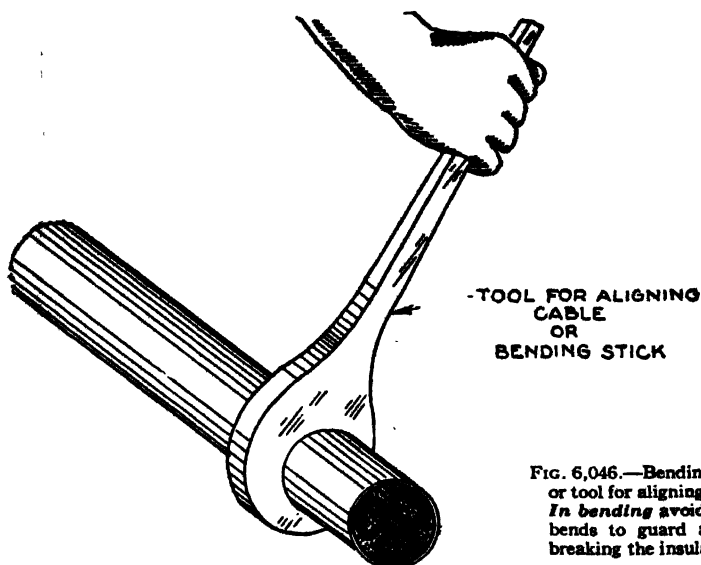

FIG. 6,046.—Bending stick or tool for aligning cable. *In bending avoid sharp bends to guard against breaking the insulation.*
**Belling.**—The term “bell” means to flare out. The end of the lead sheath is now belled, as shown in fig. 6,044, using a blunt
FIGS. 6,044 and 6,045.—Belling operation and belling tool. The end of the lead sheath is flared out by using the belling tool, fig. 6,045 as shown in fig. 6,044. Flare out the sheath about  $\frac{3}{8}$  in.
nosed tool of hard wood or fibre, such as shown in fig. 6,045. In performing this operation, care should be taken not to cut the insulation.
**Removing Insulation and Shaping.**—Remove the overall or belt insulation to a point 1 in. from bell, that is, the edge of the lead sheath, as shown in fig. 6,047.
Next, cut the jute fillers at a point close to the end of the belt insulation, as shown in fig. 6,048.
FIG. 6,047.—Removing belt insulation. The belt insulation must be removed from the end of the cable to within a distance of 1 in. from the bell. *In doing this* be careful not to injure the insulation over each conductor. In removing the belt insulation first wrap twine around the insulation extending 1 in. from sheath; this is to prevent the insulation unraveling. The illustration shows the various operations.
FIG. 6,048.—Cutting the fillers. This cable has four fillers and all of them should be cut close to the end of the inch margin of belt insulation left around the insulated conductors.